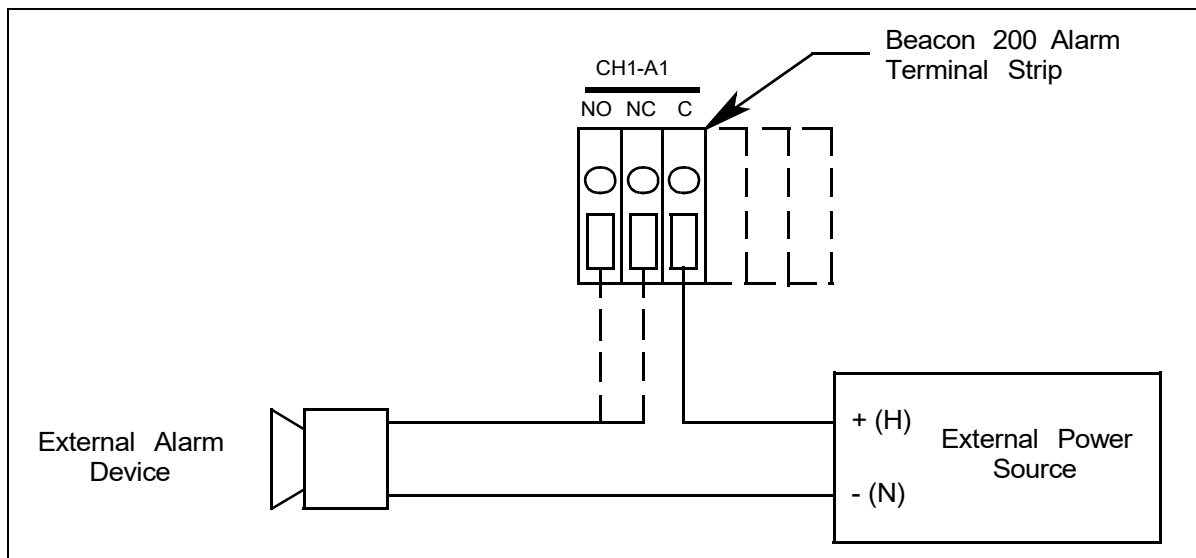

Figure 8: Typical External Alarm Wiring
- Connect the leads from the external alarm device and power to the alarm terminals as shown in Figure 8.